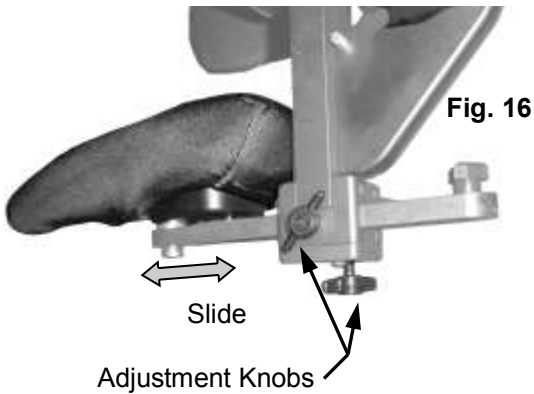

Fig. 16
- If it is necessary to alter the depth of the seat, loosen the two adjustment knobs (fig. 16). Slide the seat forward or rearward as required and re-tighten both knobs.